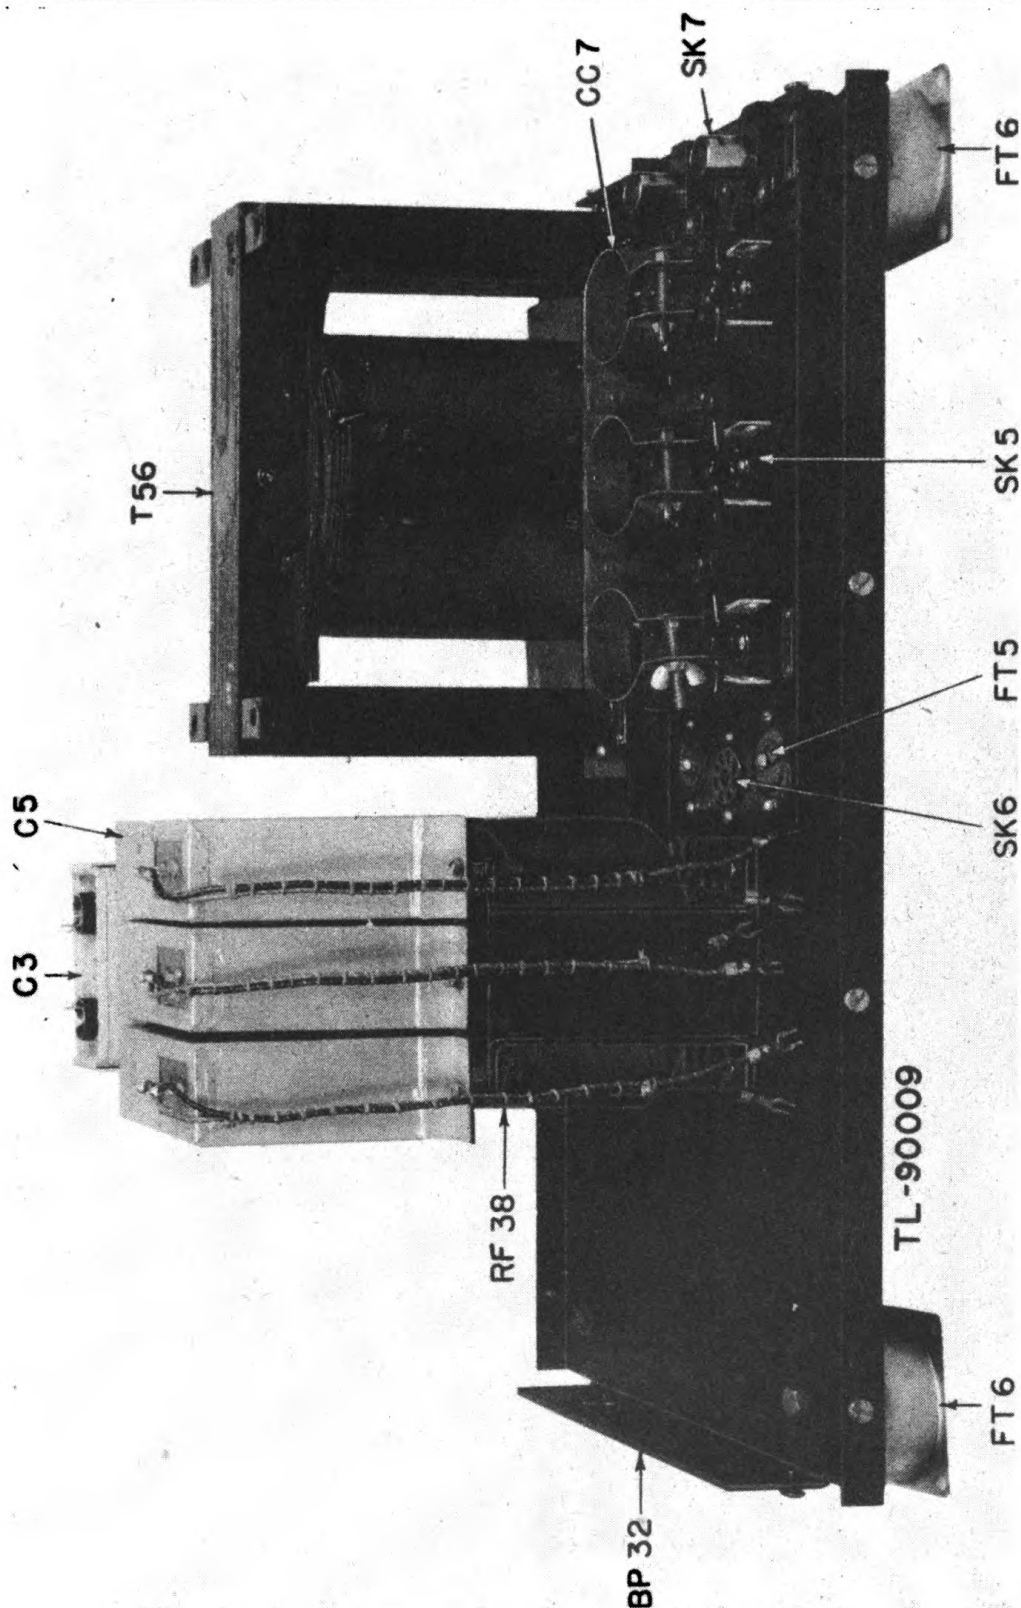

Figure 5. Rectifier RA-43-B, front view base.
(1) The power section consists of the plate transformer, the filter choke, the filter and power factor capacitors, and the tube socket sub-base, as shown in figure 5. The base is supported by rubber shock mounts and in turn supports the rubber-mounted tube socket sub-base.